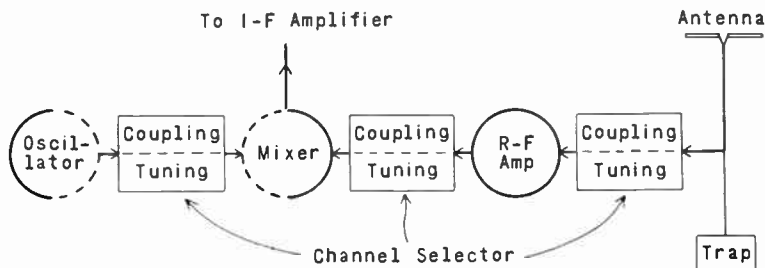
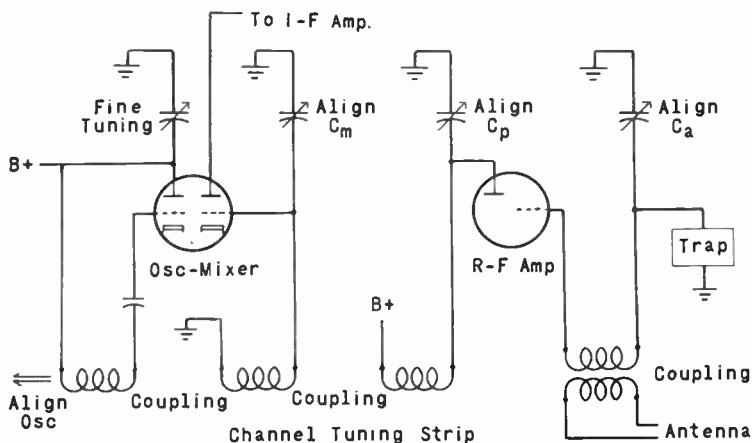
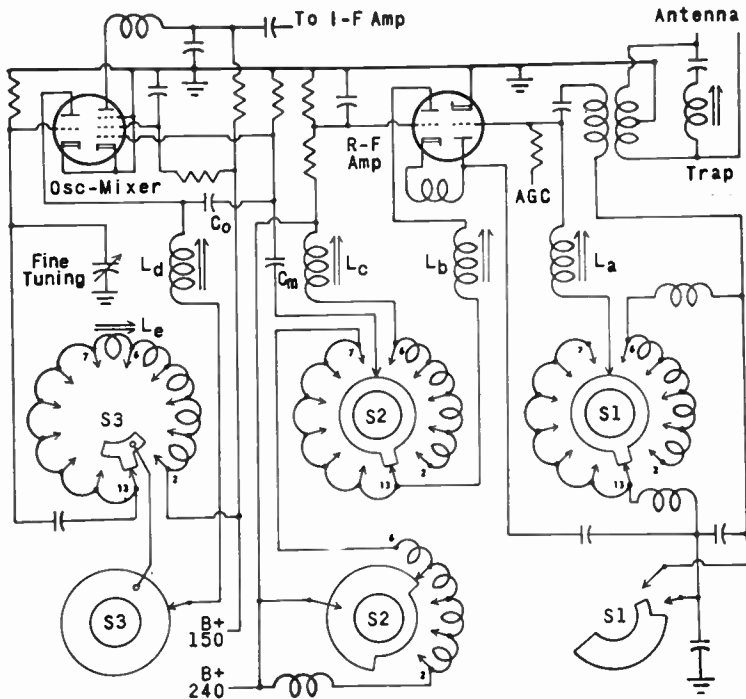

Fig. 2-1. Every tuner section contains these subdivisions in one form or another.
Fig. 2-3. Elements for channel selection and for alignment in a turret tuner.
Fig. 2-4. Circuit connections for a simple type of incremental or switch type tuner.
The tuner group or section includes the subdivisions shown by Fig. 2-1. There are couplings for signal transfer between antenna and r-f amplifier, between r-f amplifier and mixer, and between oscillator and mixer. Coupling from oscillator to mixer often is referred to as oscillator injection; it may be a small capacitor, sometimes adjustable.
Couplings and service adjustments for the turret tuner are shown in Fig. 2-3 without connections from the low-voltage power supply to plates, grids and cathodes. This diagram includes components in which we are most interested during trouble shooting other than checks for voltages and resistances, and helps bring out the fact that any tuner consists essentially of the elements in Fig. 2-1.
Fig. 2-4 shows principal components and connections in a rather simple type of incremental or switch type tuner. Channel tuning is by means of switching more or less inductance into the antenna or r-f coupling by means of rotary switch  $S1$ , into the r-f to mixer coupling by switch  $S2$ , and for oscillator tuning by switch  $S3$ . The diagram shows front and back connections and inductors for each switch wafer.
If we omit from the fairly complete diagram of Fig. 2-4 all B-voltage and biasing connections to plates, screens, grids and cathodes we have the simplified diagram of Fig. 2:5. Considering only the functions of the elements in this latter diagram, and neglecting details of circuit connections, we have Fig. 2-1. Again we find that any tuner consists basically of the elements shown in Fig. 2-1 so far as principles of trouble location are concerned.
**4.** Realign for less bandwidth and greater gain. In Fig. 2-2 this would require adjustment of  $C_a$ ,  $C_p$  and  $C_m$ , and in Fig. 2-4 of  $L_a$ ,  $L_b$  and  $L_c$ . Bring the video carrier as high on the new response as still allows adequate sound. The sound carrier goes down on one side of an r-f response as the video carrier goes up on the opposite side.